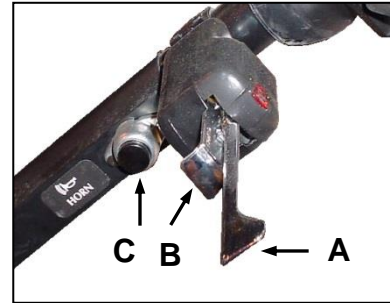

Figure 3.3.4
3.3.13 TURN SIGNAL/HAZARD WARNING SWITCH – Figure 3.3.4
3.3.14 HORN BUTTON – Figure 3.3.4 Arrow C